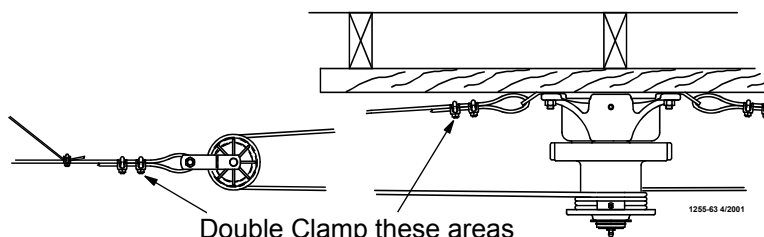

Figure 9. Double back arrangement for feed lines over 350' [107 m]
3. Extend the 3/16" [5 mm] Main Winch Cable the full length of the feeder line. Attach the cable temporarily to the ceiling with nails, staples, or some type of fasteners. Figure 9 "Figure 9. Double back arrangement for feed lines over 350' [107 m]" on page 9 shows a double back arrangement for feed lines over 350' [107 m].